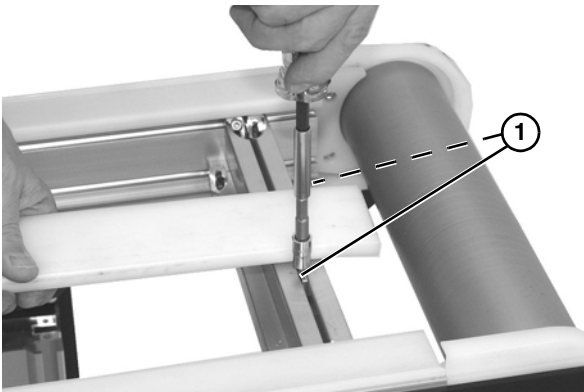

Figure 28
3. Remove two screws (**Figure 28, item 1**) from each clamp on center frame channel.